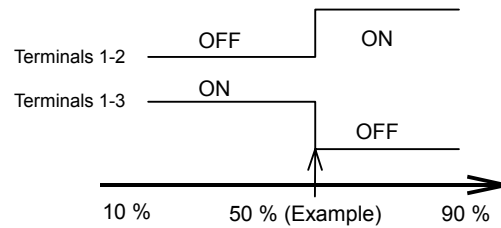

Figure 5. Example of auxiliary switch contact operation
Fig. 5 indicates the relationships between the terminals and the switches.
When the output opening outreaches the preset opening, the contact between terminals 1 and 2 makes (NO), while the contact between terminals 1 and 3 breaks (NC). (See Fig. 5.)
Fig. 5 shows a setting example of ON between the terminals 1 and 2 / OFF between the terminals 1 and 3 at 50 % opening during the opening operation.